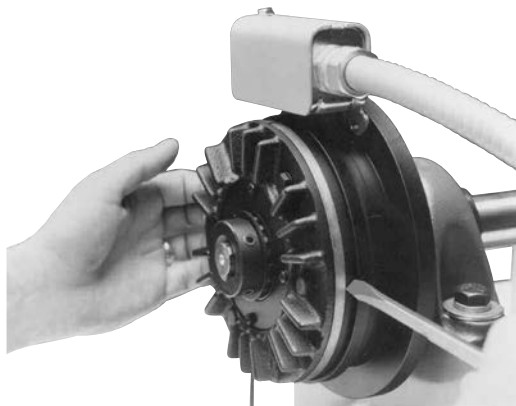

Figure 1
- a. Using a flat blade screwdriver, pry back on armature assembly to increase airgap. (See Figure 1)